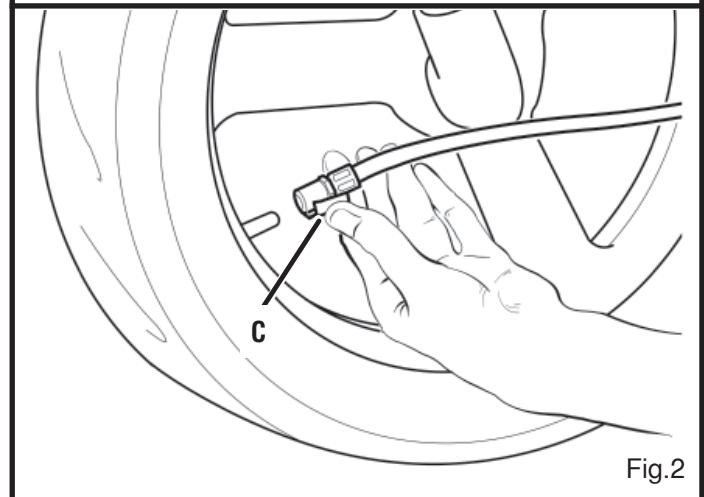

Fig.2
- 2) Press tab (C) on the fitting and connect the hose of the gun to the tire by pushing the fitting onto the valve and then releasing the tab (Fig. 2).